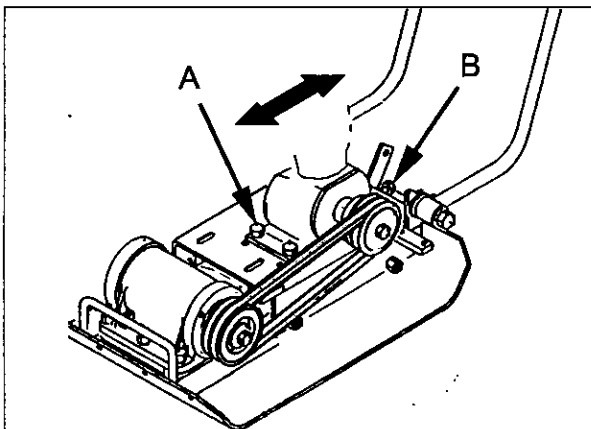

Figure 13-2 - V-Belt Alignment Adjustment.
1. First loosen the engine mounting bolts 'A', refer Figure 13-2 .